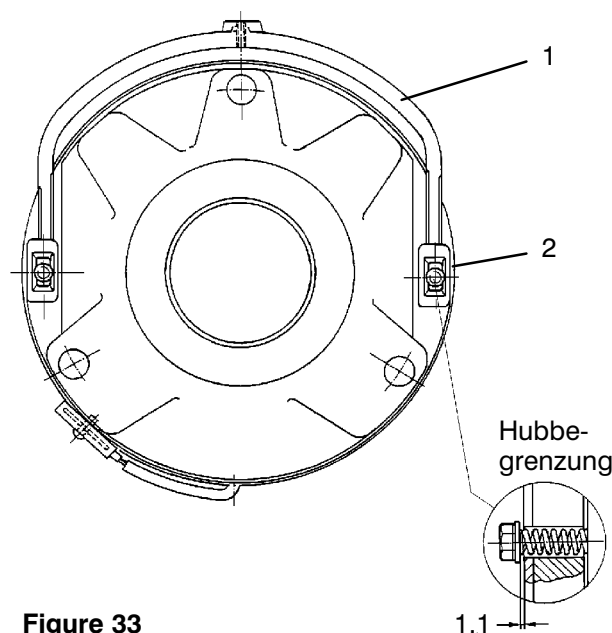

Figure 33
2. Remove and destroy the lifting travel limiting screws (Figure 33, Item 2) (The emergency lowering bar (Figure 33, Item 1) will then be released.)
To install the new anchor disk, proceed in reverse order. The socket screws (Figure 32, Item 4) and the lifting travel limiting screws (Figure 33, Item 2) must be replaced.
The clearance between the anchor disk and the magnet assembly (Figure 32, item 9) must be set to 1.1 mm with the brake dismantled using the lifting travel limiting screws (Figure 33, Item 2)
2. Screw stud bolt into emergency lowering bar (**Figure 33, Item 1**)